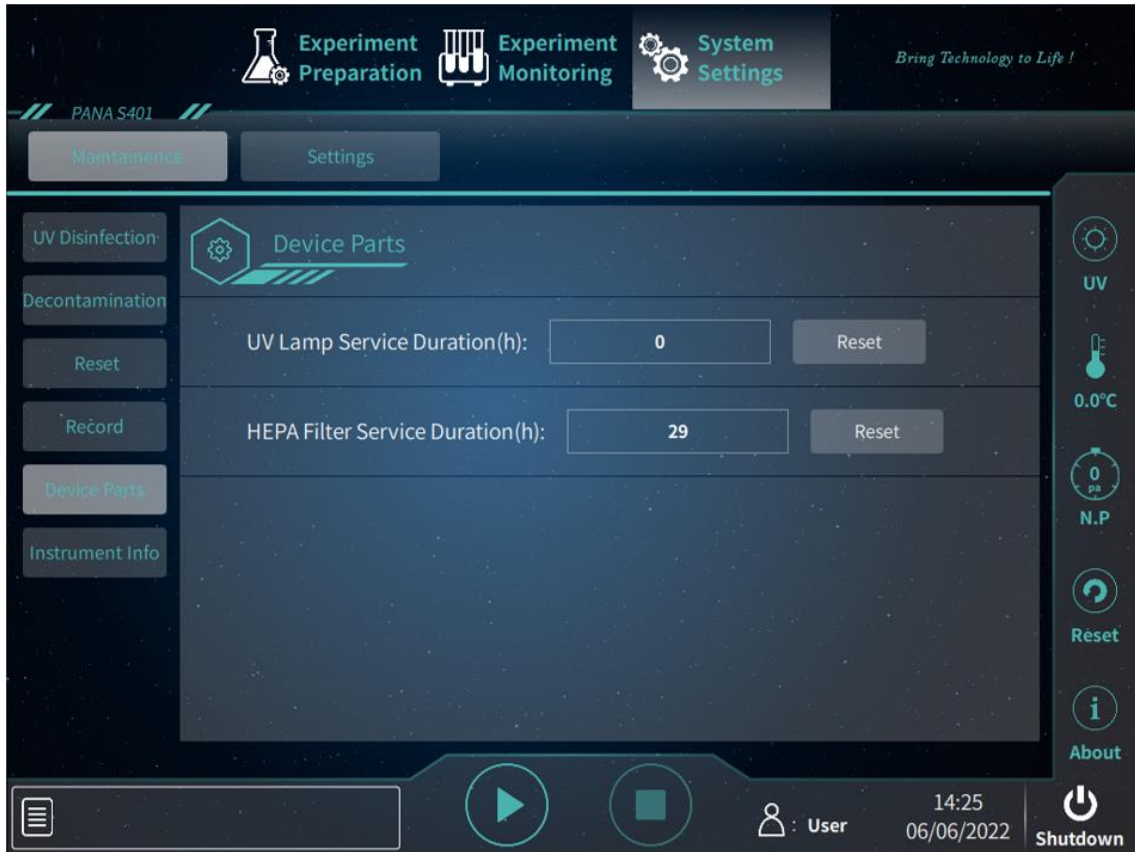

Figure 5-20. System Settings Interface – Maintenance Tab – Device Parts
- ▶ **< Device Parts >**: User could click this function key to view UV lamp and HEPA filter service duration, as shown in figure 5-20. Both UV lamp and HEPA filter service duration are 1000 hours, maximally. If it serves out of 1000 hours, system will remind user to change the corresponding parts with a pop-up window. Handling System could count down from the beginning after user changes the parts and clicks reset button.